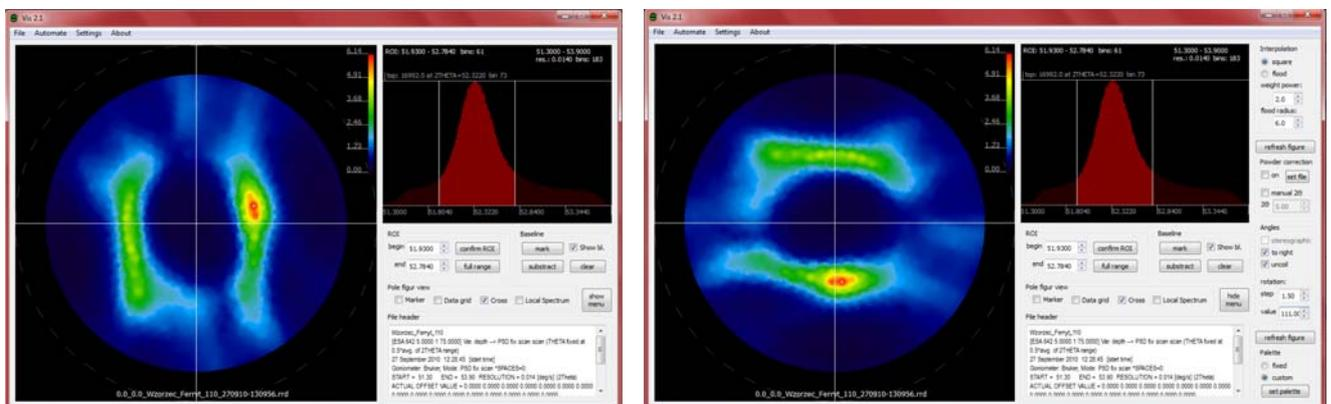

Figure 5. Export results only from interesting parts of spectrum and in most convenient orientation
- Arbitrary software rotation of the registering (or earlier registered) pole figure and its extraction for export and further analysis related to a chosen, valuable part of the obtained diffraction spectrum, as well as by the *LaboTex*-package (Fig. 5).